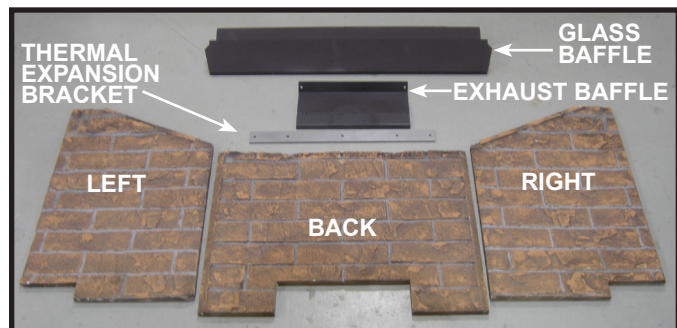

Figure 1. Refractory Kit Components
KIT COMPONENTS (Shown in Figure 1)
13. Repeat steps 10-12 for right refractory panel. Refer to Figure 1 for panel identification.